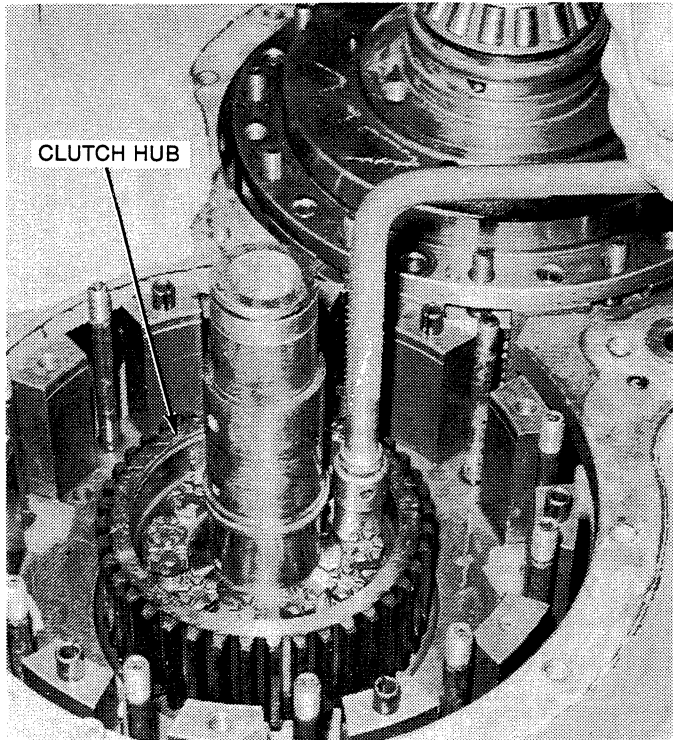

Figure 6-18. Removing or Installing Screws from Clutch Hub.
10. Remove twelve place-head screws from the clutch hub. See Figure 6-18.